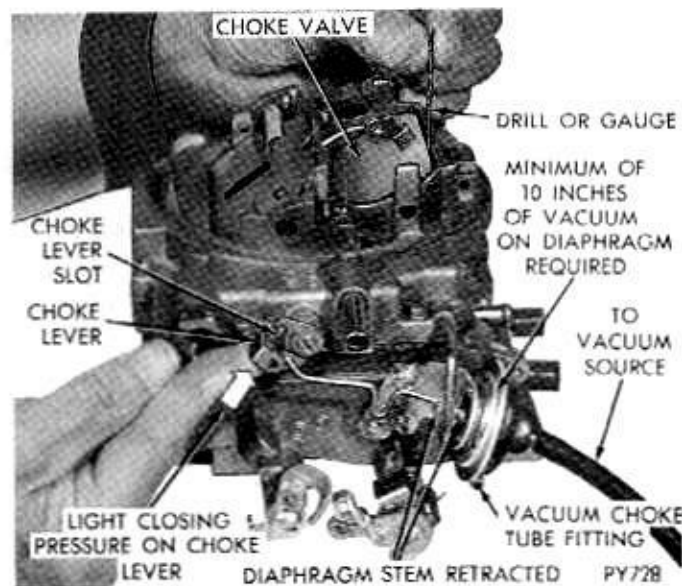

Fig. 13—Checking Choke Vacuum Kick Setting
(1) If adjustment is to be made with engine running, disconnect fast idle linkage to allow choke to close to kick position with engine at curb idle. If an auxiliary vacuum source is to be used, open throttle valves (engine not running) and move choke valve to closed position. Release throttle first, then release choke.
(2) When using an auxiliary vacuum source, disconnect vacuum hose from carburetor and connect it to hose from vacuum supply with a small length of tube to act as a fitting. Removal of hose from diaphragm may require forces which damage the system. Apply a vacuum of 10 or more inches.
(3) Insert specified drill (refer to Specifications) between choke valve and wall of air horn. (Fig. 13). Apply sufficient closing pressure on lever to which choke rod attaches to provide a minimum choke valve opening without distortion of diaphragm link. Note that on most units, a cylindrical stem extends as an internal spring is compressed. This spring must be fully compressed for proper measurement of vacuum kick adjustment.
(4) An adjustment will be necessary if a slight drag is not obtained as drill is being removed. Shorten or lengthen diaphragm link to obtain correct choke opening. Length changes should be made by care-